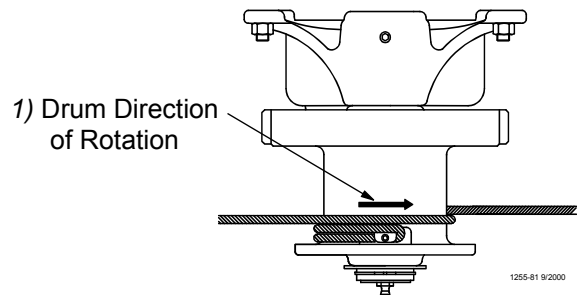

Figure 9. Power Winch Drum Rotation
5. Turn the winch drum one full revolution. Guide the cable against the flange at the bottom of the winch drum. The cable must not wrap over itself on the drum, but should be wrapped as close as possible to each previous wrap. See **Figure 9.**